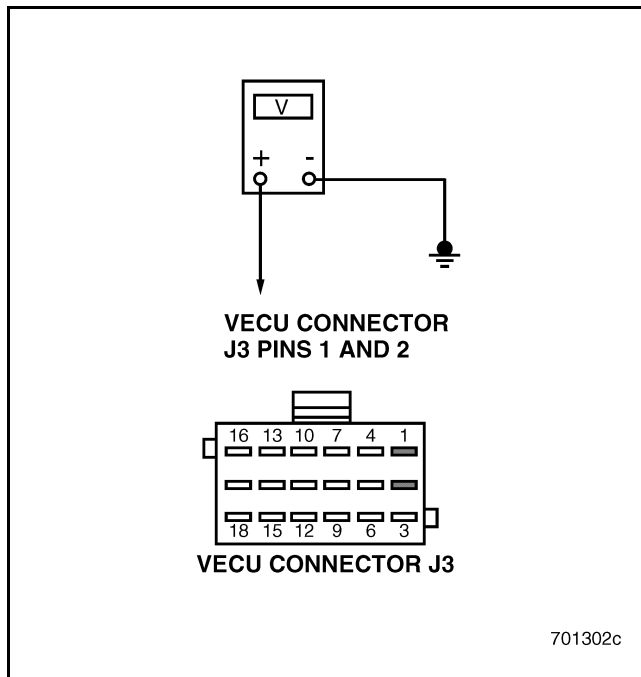

Figure 651
4. Measure the voltage between VECU connector J3 pins 1 and 2 versus a good ground (see Figure 651).